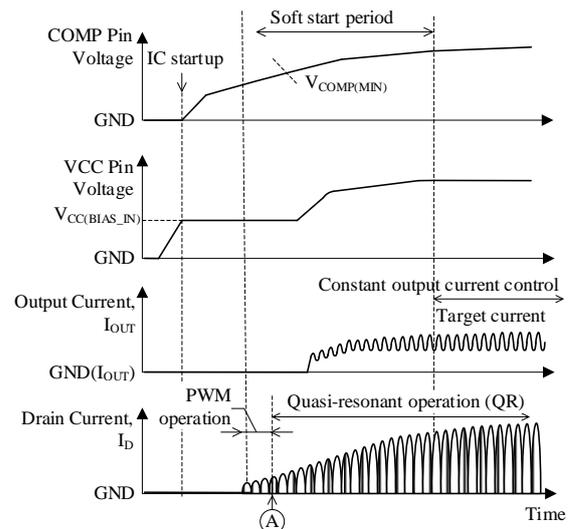
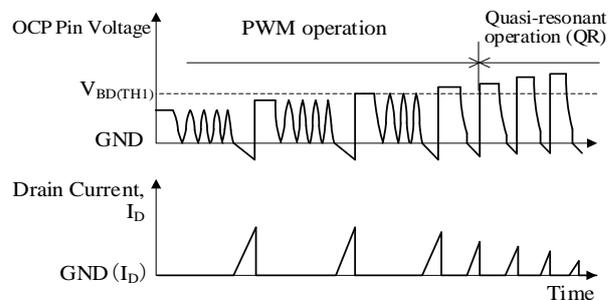

Figure 9-4. Operational Waveforms at Startup
Figure 9-5. OCP Pin Voltage Waveforms on Expanded Time Scale (Point A)
Figure 9-4 shows the operation waveforms at startup. The soft start function of the IC is activated at power-on. The soft start function reduces the voltage and current stress of the power MOSFET and the secondary rectifier diode at power-on. The soft start operation period is the period from when the COMP pin voltage reaches  $V_{COMP(MIN)} = 0.85\text{ V}$  to when the output current is controlled to be constant. During that period, the output
When the auxiliary winding voltage rises along with the output voltage, the positive voltage on the OCP pin also rises. When the OCP pin voltage reaches  $V_{BD(TH1)} = 0.24\text{ V}$  or more, the IC shifts to the quasi-resonant operation (QR). Figure 9-5 shows the OCP pin voltage waveforms on an expanded time scale when the IC shifts to quasi-resonant operation mode from PWM operation (point A in Figure 9-4).